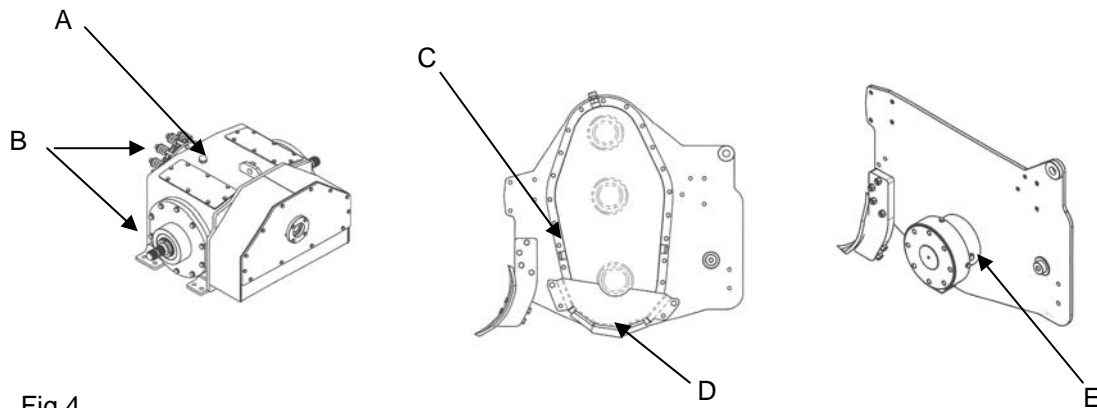

Fig 4
1. The gearbox filled to the dipstick mark (A) (30 l) - (B) is the draining-plug in the lower front part of the gearbox. See fig. 4